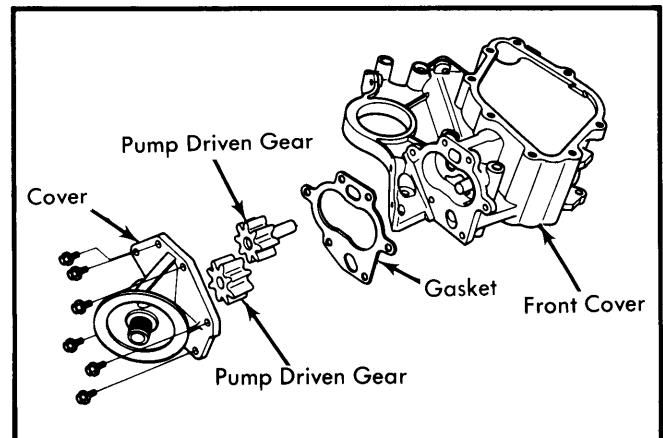

Fig. 10 Exploded View of Oil Pump
**Removal & Disassembly** — Remove oil filter and oil pump cover attaching bolts. Remove cover and lift pump gears out of pocket in front cover. See Fig. 10. To remove pressure relief valve, drill a small hole in front cover and insert self-threading sheet metal screw into oil pressure relief valve chamber cap and pull or pry plug, spring and valve from valve body.